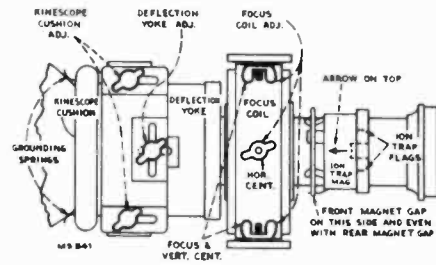
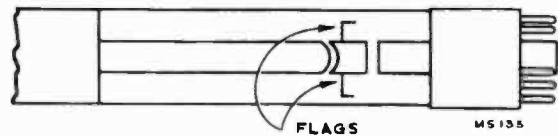

Figure 4—Yoke and Focus Coil Adjustments
Figure 5—Ion Trap Flags
Loosen the two kinescope cushion adjustment wing screws and slide the cushion toward the rear of the chassis. Loosen the deflection yoke adjustment, slide the yoke toward the rear of the chassis and tighten. See Figure 4 for the location of the cushion and yoke adjustments.
**INSTALLATION OF KINESCOPE**—The kinescope second anode contact is a recessed metal well in the side of the bulb. The tube must be installed so that this contact is approximately on top. The final orientation of the tube will be determined by the position of the ion trap flags. Looking at the kinescope gun structure, it will be observed that the second cylinder from the base inside the glass neck is provided with two small metal flags, as shown in Figure 5. The kinescope must be installed so that when looking down on the chassis, the two flags will be seen as shown in Figure 4.
Early production receivers employed an EM type of ion trap magnet like that in the model 630TS receiver. Late production receivers employed a PM type magnet as shown in Figure 4.
If the PM type is employed, slip the assembly over the neck of the kinescope with the large magnet towards the base of the tube and with the arrow on the assembly up as shown in Figure 4. The front magnet is movable on the assembly. The correct position of the front magnet is with the gap on the left side (from the rear of the cabinet) and even with the gap of the rear magnet.
**ION TRAP MAGNET ADJUSTMENT**—The ion trap rear magnet poles should be placed over the ion trap flags as shown in Figure 4. Starting from this position adjust the magnet by moving it forward or backward at the same time rotating it slightly around the neck of the kinescope for the brightest raster on the screen. Reduce the brightness control setting until the raster is slightly above average brilliance. Adjust the focus control (R129 on the chassis rear apron) until the line structure of the raster is clearly visible. Readjust the ion trap magnet for maximum raster brilliance. The final touches on this adjustment should be made with the brightness control at the maximum position with which good line focus can be maintained.